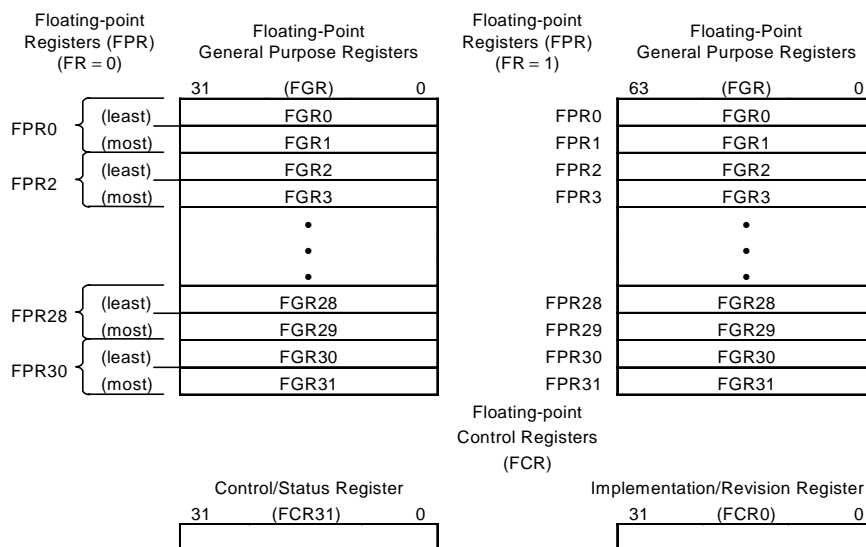

Figure 12-1 FP Registers
- As 16 floating-point registers (see the next section for a description of FPRs), each of which is 64-bits wide, when the *FR* bit in the *CPU Status* register equals 0. The FPRs hold values in either single- or double-precision floating-point format. Each FPR corresponds to adjacently numbered FGRs as shown in Figure 12-1.
- As 32 floating-point registers (see the next section for a description of FPRs), each of which is 64-bits wide, when the *FR* bit in the *CPU Status* register equals 1. The FPRs hold values in either single- or double-precision floating-point format. Each FPR corresponds to an FGR as shown in Figure 12-1.